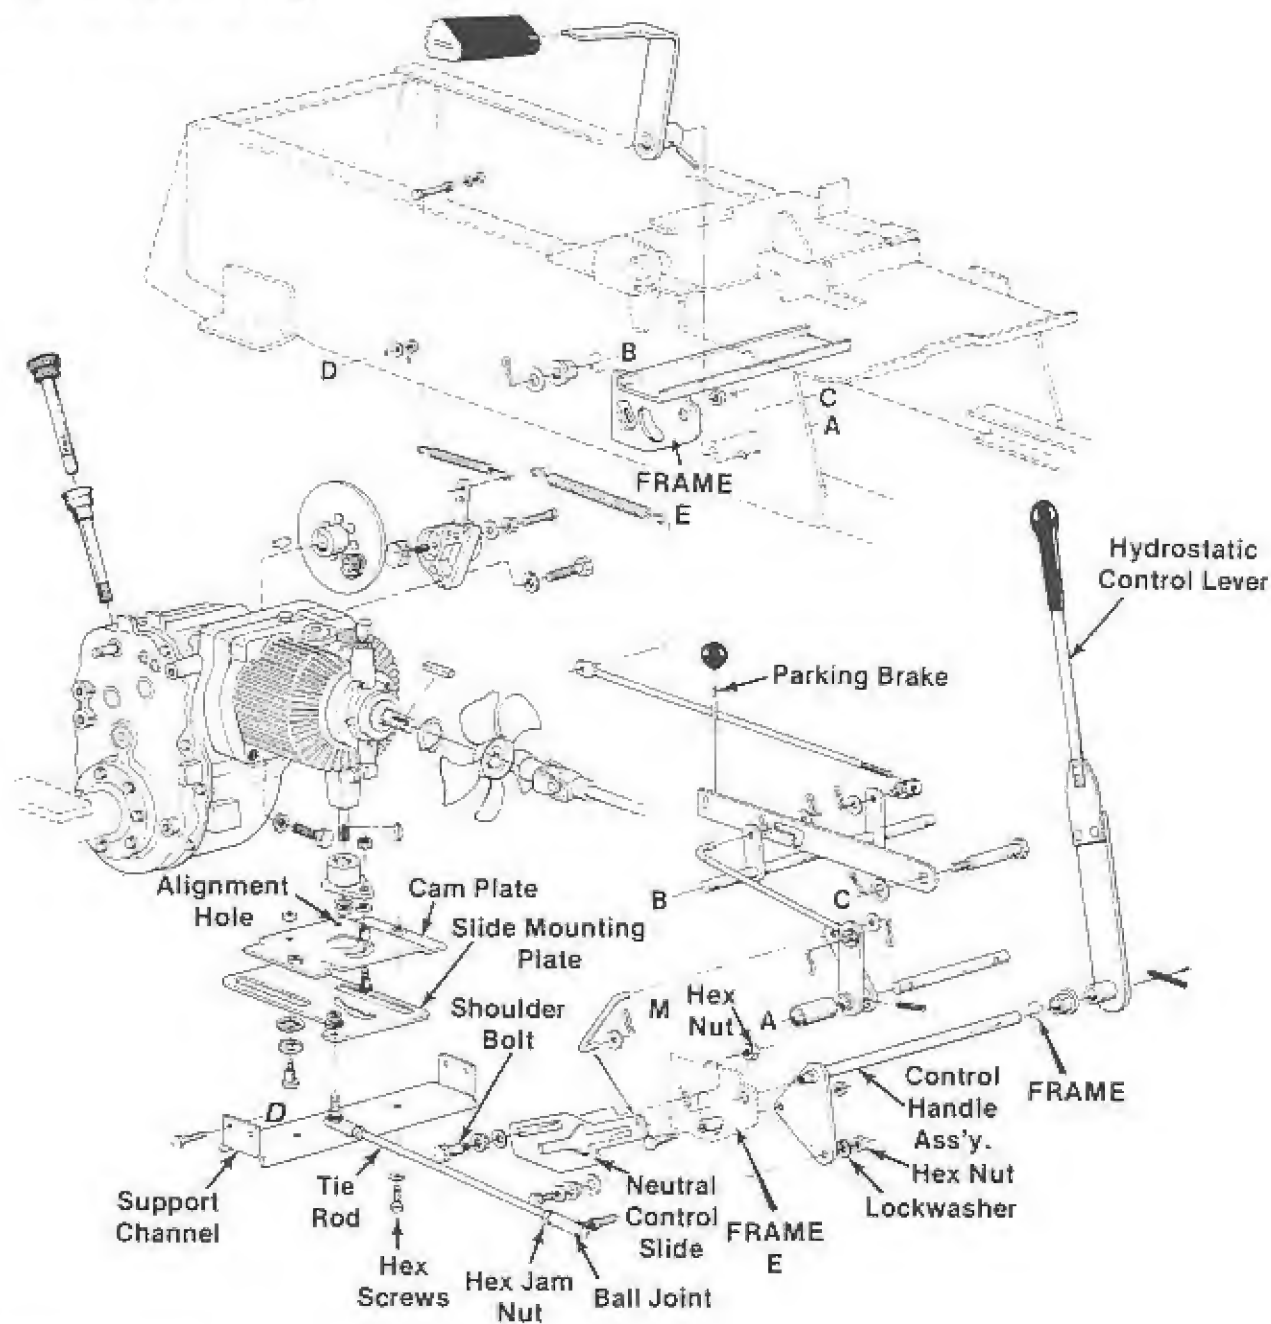

FIGURE 17.
## Neutral Adjustment for the Hydrostatic Control Lever (See figure 17)
2. Remove the ball joint hex nut and lock washer from the control handle assembly. See figure 17.